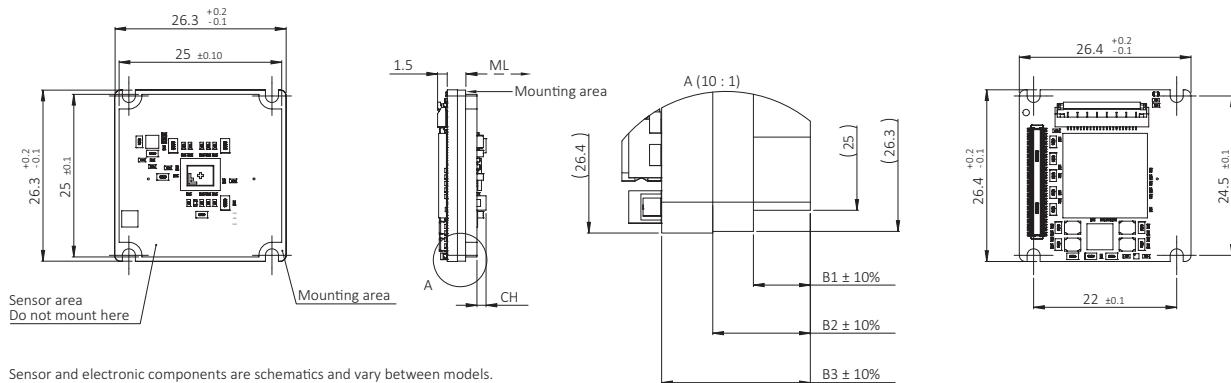

Figure 1: CSI-2 Bare Board dimensions
Dimensions that are common between different models are displayed in Figure 1, model specific dimensions are listed in Table 6. **Mechanical length** (ML) defines the mechanical distance from the mounting area to the lens mount front flange. **Components height** (CH) relates to the electronic components with maximum height, in some cases the sensor.